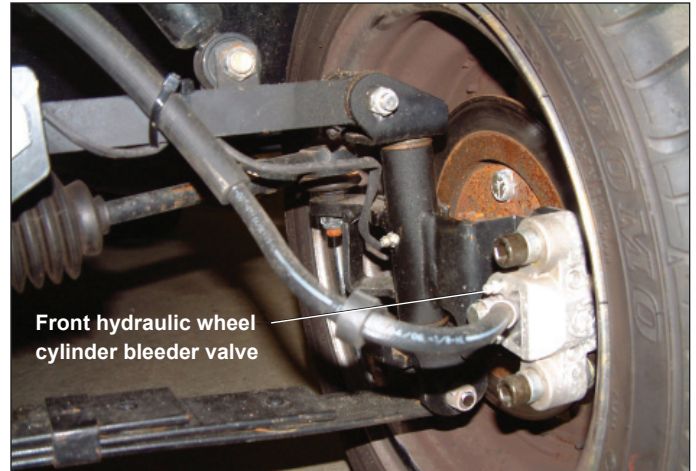

Figure 5-9. Hydraulic Brake Caliper Bleeder Valve
1. Install a length of appropriate size plastic tubing over the wheel cylinder bleeder valve (Figure 5-9).